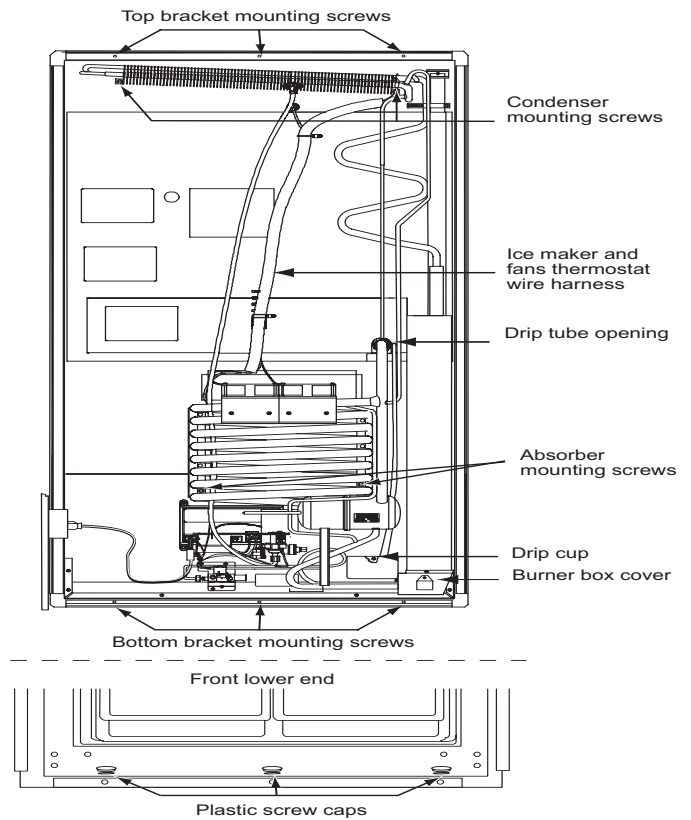

Figure 4.
- Cut the lower cable tie holding the lower section of the wire harness to the foam plug. See Figure 4.
- Remove the upper cable tie screw to loosen the wire harness from the cooling unit foam plug. See Figure 4. Some models will have a cable tie that must be cut.
- Cut or peel off the sealing tape from all four edges of cooling unit foam plug. See Figure 4.